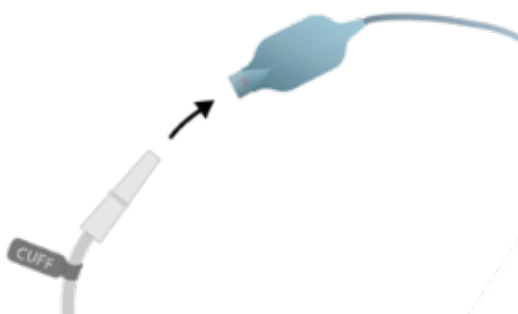

Figure 12: Patient connectivity, connecting Cuff Pressure Tube
**Step 2:** Connect the Cuff Pressure Tube (transparent tube) connector (labelled "Cuff") to the ETT or TT cuff connector by pushing it in as shown in Figure 12